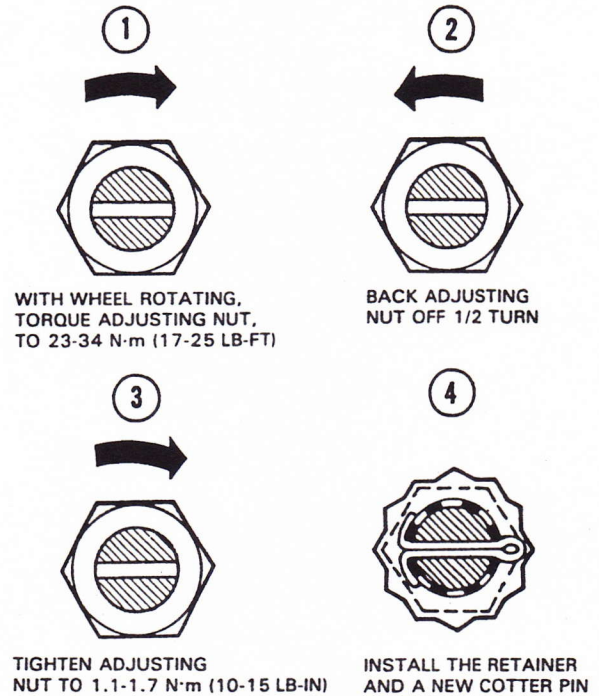

FIGURE 4-10. Front Wheel Bearing Adjustment. (Courtesy of Ford Motor Company)
13. Install the outer bearing cone, flat washer, and bearing, adjusting nut and torque to manufacturer's specifications. *Note:* All manufacturers do not have a common torque specification. Figure 4-10 illustrates the procedure for vehicles manufactured by Ford Motor Company.